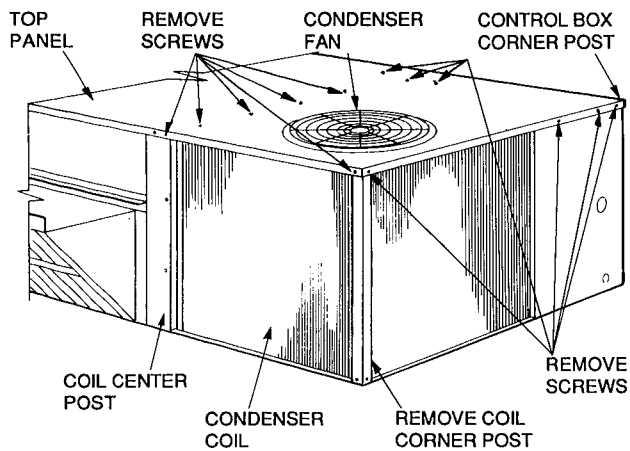
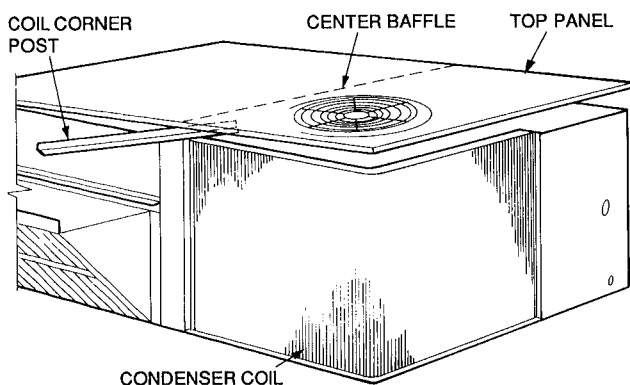

Fig. 29 — Cleaning Condenser Coil
Fig. 30 — Propping Up Top Panel
3. Remove condenser coil corner post. See Fig. 29. To hold top panel open, place coil corner post between top panel and center post. See Fig. 30.